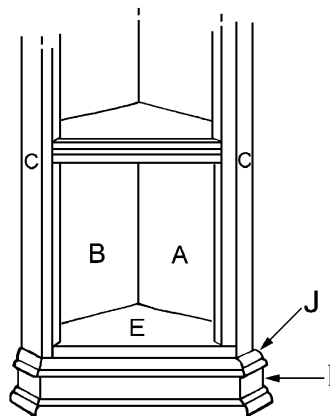

Figure 6
2. From 3-1/2"-wide decorative molding, cut three bottom trim pieces (I): two approximately 2 inches long, and one approximately 12-1/2" long. Be sure to add a little extra length to each piece to allow for the miters.
3. Standing each bottom trim piece (I) on its edge, miter one end of each of the shorter lengths and both ends of the longer piece. Set your saw to cut 22-1/2 degrees producing an angle of 67-1/2 degrees on the wood.
4. Attach the mitered pieces of molding along the bottom edge of the assembled cupboard, as shown in *Figure 6*. Use glue and 6 penny finishing nails, placing one nail every 3 inches. Countersink all the nails.
5. Repeat Steps 1 through 4, above, using screen molding (J) this time. Attach the cut and mitered strips of screen molding (J) directly above the decorative molding (I), as shown in *Figure 6*, using glue and finishing nails. Space the nails about 3 inches apart and countersink them.
6. Repeating the same process, attach 3-1/2"-wide decorative molding (K) along the top edge of the assembled cupboard over the shelf trim. Again use glue and finishing nails spaced about 3 inches apart. Countersink the nails.